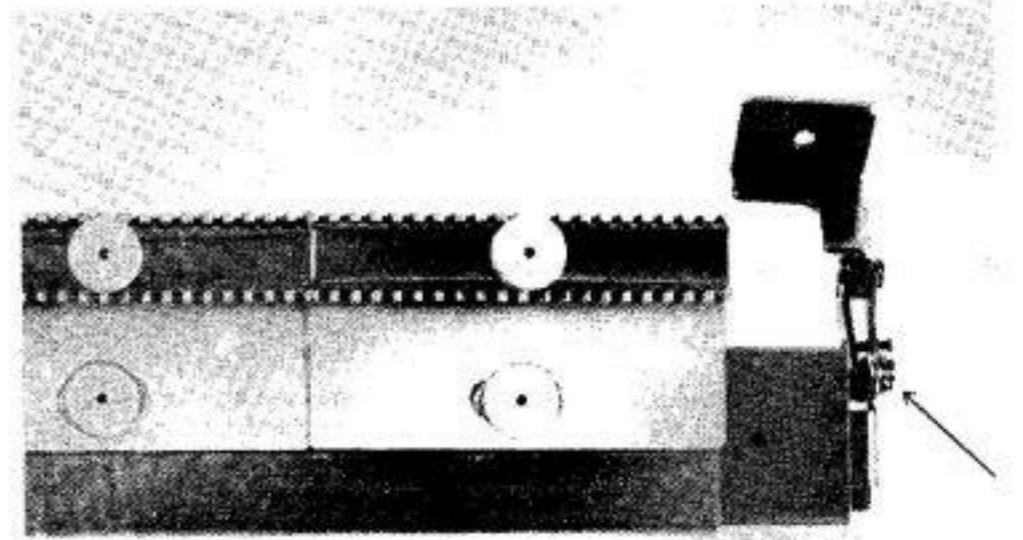

Fig. 26
- (1) Mounting Joint (See Fig. 26.)